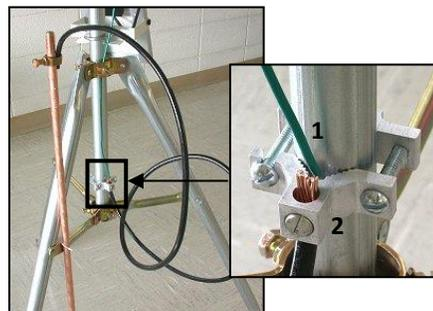

Figure 29: The TP1-GK assembly. Right is the 14 AWG wire and the #4 cable attached to the tripod coupling.
2. Mount the tripod coupling on the tripod mast so that it clamps the 14 AWG wire against the tripod (Figure 29).